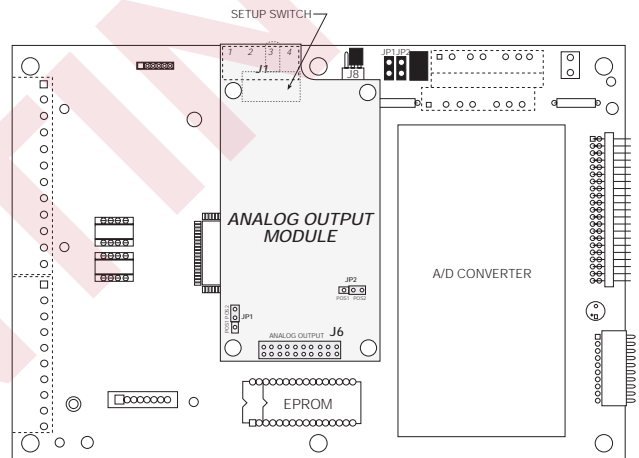

Figure 1. Analog Output Installed on CPU Board
Mount the analog output module on its standoffs in the location shown in Figure 1 and plug the module input into connector J6 on the CPU board.
**NOTE:** Ensure jumpers JP1 and JP2 are installed in position 2 (POS2, pins 2 and 3) as shown in Figures 1 and 2.